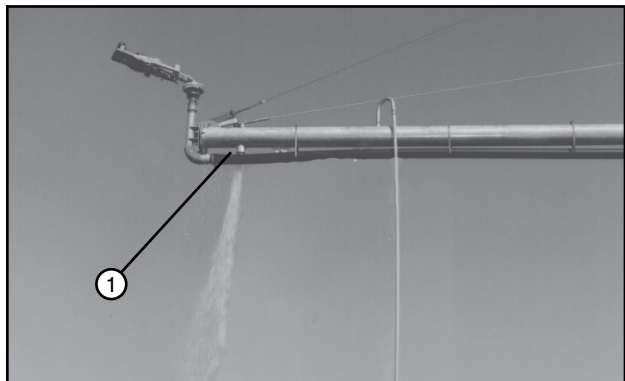

Figure 90-3 1. Overhang Drain
5. Remove plugs from the overhang drains. Clean sand and foreign particles from these drains. Turn the rubber drain seal over when reinstalling. See Figure 90-3.